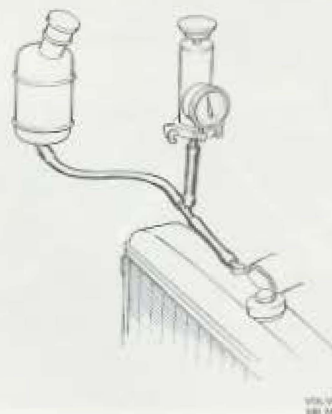

Fig. 26-6. Pressure-testing the cooling system
1. Connect a leakage tester to the cooling system between the hose from the expansion tank and the radiator, Fig. 26-6. Use a T-nipple and two hoses for connecting up. With this also check the valve for overpressure in the expansion tank cap. The valve should be pressed up from its seat and should open when the pressure in the cooling system exceeds 70 kPa (0.7 kp/cm² = 10 lbf/in²)